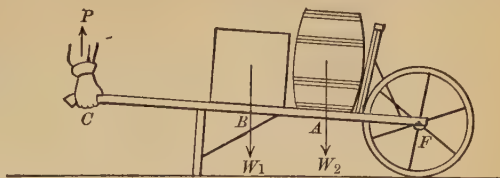

FIG. 14. — Wheelbarrow with two weights.
man. In practice, however, it often happens that the load consists of two weights, such as two bags of cement or two boxes or kegs, as shown in figure 14. To get the upward pull we have merely to compute the turning effect of each of the weights (W_1 and W_2) about the fulcrum (F) and make the sum of these effects equal to the turning effect of the upward pull (P). That is,